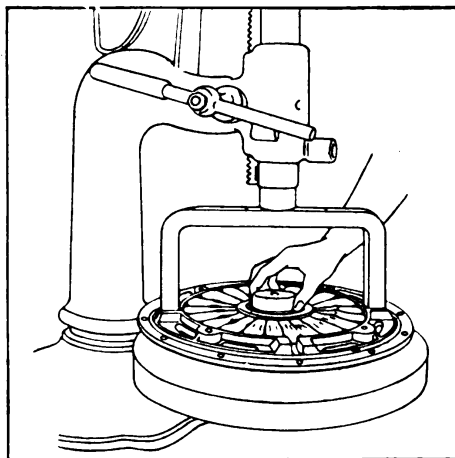

Figure 412
Assemble the remaining fulcrum ring (113) firmly and carefully over the sleeve (116). Be sure no ball bearings become displaced, or the levers overlap each other. Figure 412.